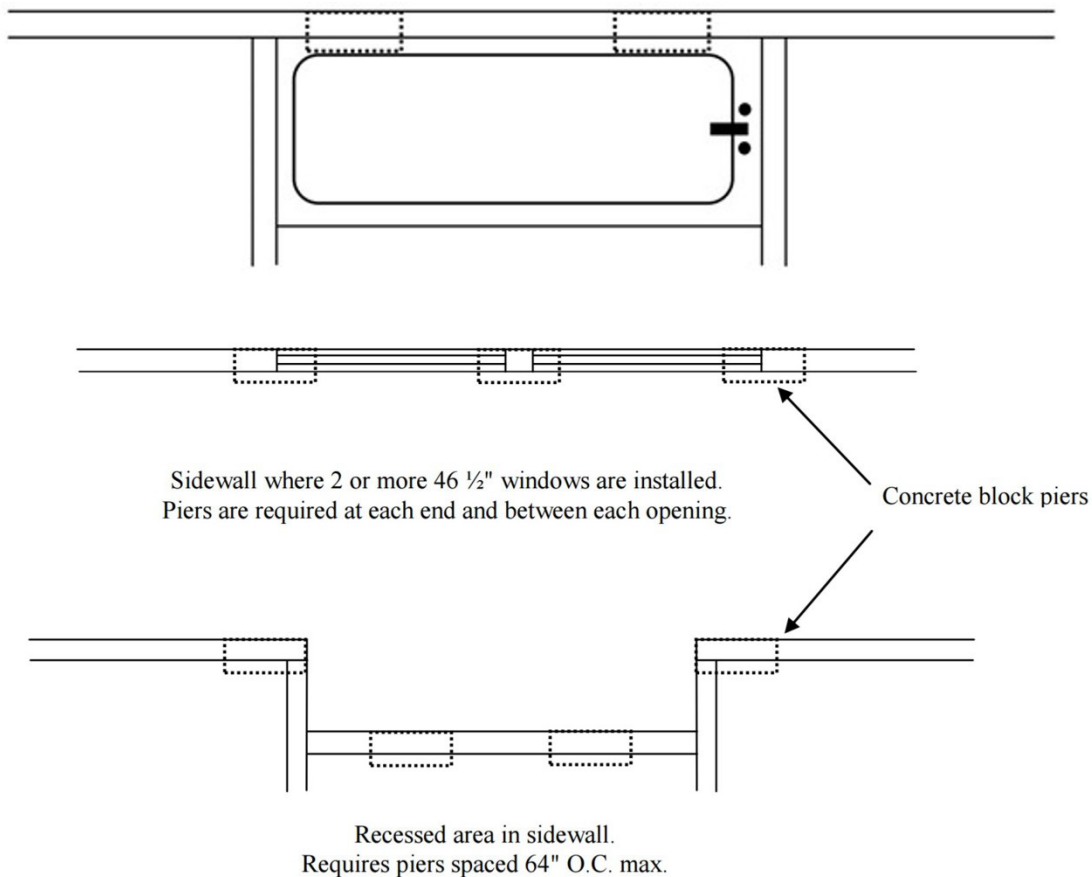

Figure 15 - Piers should be placed in special areas or concern and areas with higher loads, such as sliding glass door and bath tubs.
- Perimeter piers are required to be placed on both sides of the sidewall, exterior doors or sliding glass doors greater than 48 inches in width, under porch posts, factory-installed fireplaces, wood stoves or areas with higher loads (Figure 15).